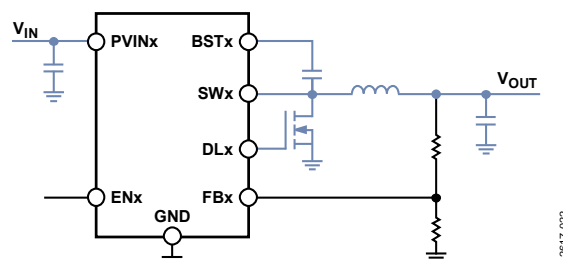

Figure 42. Typical Circuit with High Current Traces Shown in Blue
- Ensure that the high current loop traces are as short and wide as possible. The high current path is shown in Figure 42.